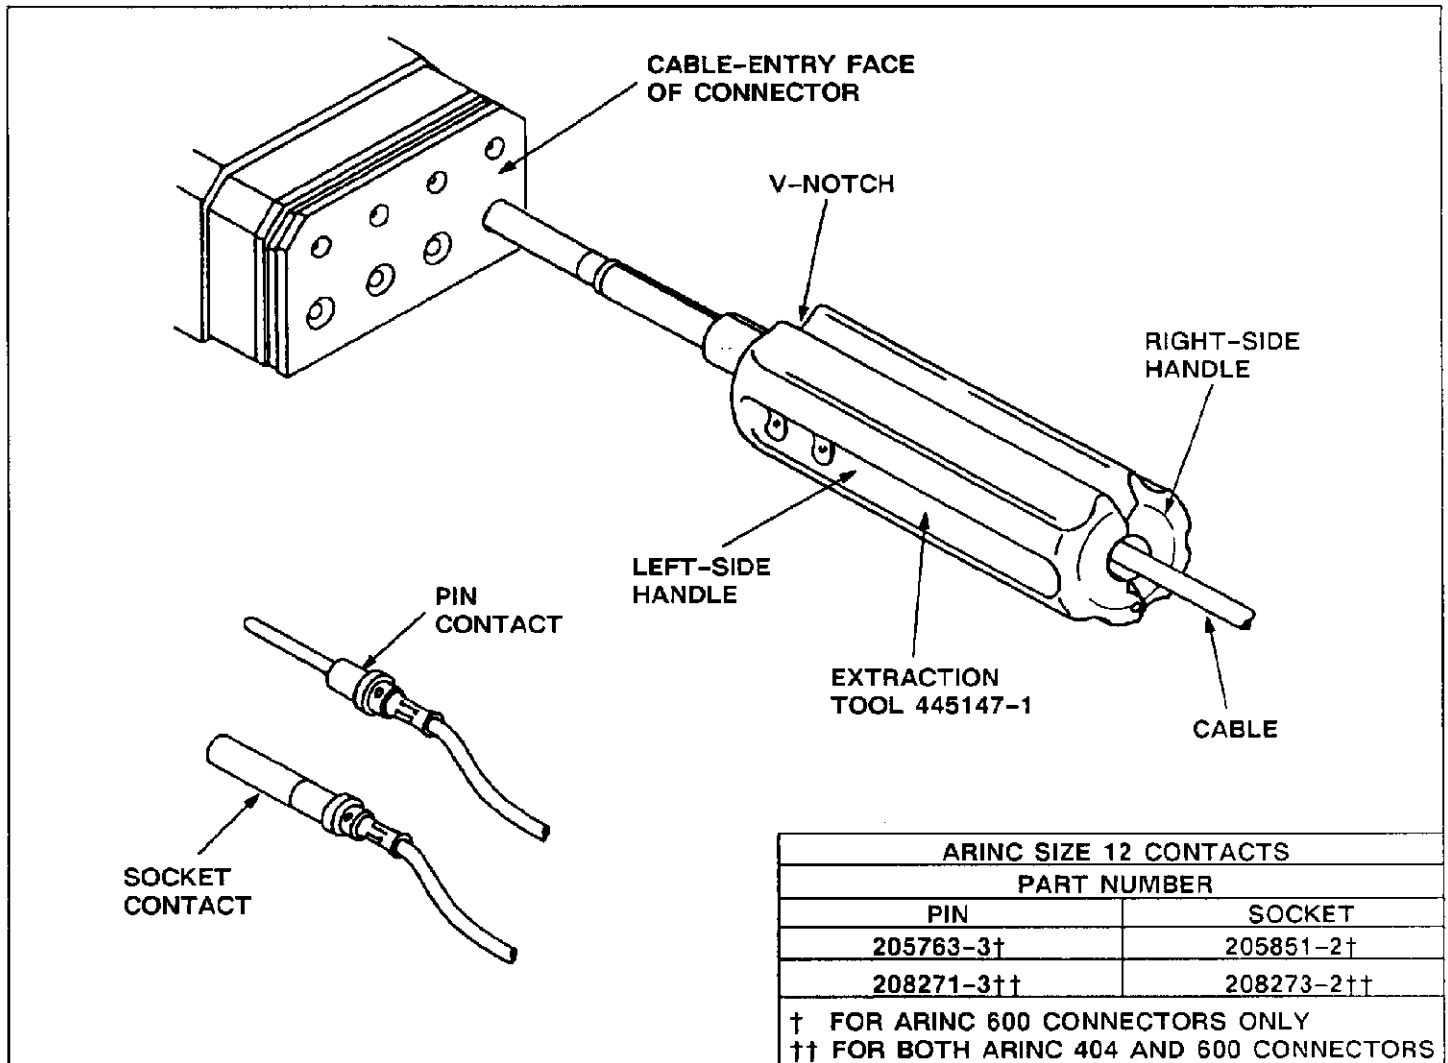

Fig. 1
This instruction sheet (IS) covers AMP Extraction Tool 445147-1 which is used to remove Size 12 contacts listed in Figure 1 from ARINC 404 and 600 connectors. Read these instructions thoroughly before removing any contacts.